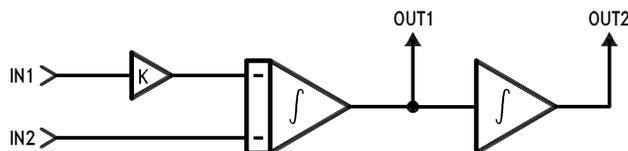

Figure 52. MODE 7
**8.4.1.12 Summing Integrator (See Figure 52)**